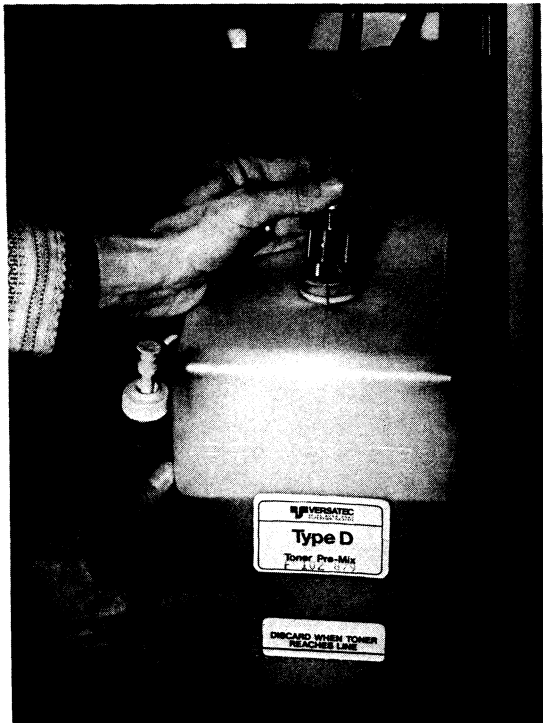

Figure 3-16 Inserting Tubes in Toner Bottle
5. Install the fanfold paper guide assembly into the L-shaped paper support brackets (Figure 3-16). The brace welded to each end of the fanfold paper guide should form the hypotenuse (hypotenuse being the line of the triangle opposite the right angle) of a right triangle. The right angle of this same triangle is formed by the L-shaped paper support brackets.
2. Remove cap and aluminum seal from large bottle of toner pre-mix. Insert tubes into toner bottle and screw cap on securely (Figure 3-16).